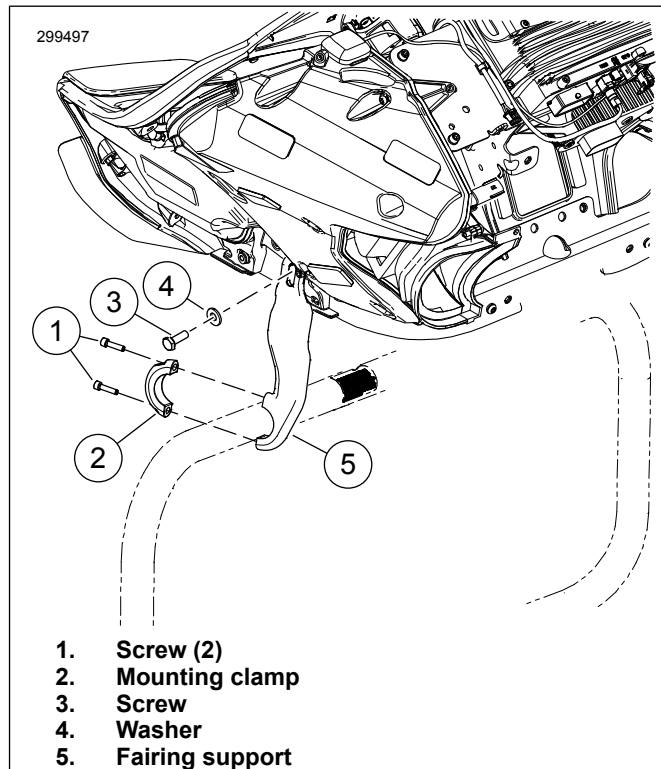

Figure 2. Remove Engine Guard
2. See Figure 2. Remove two screws (1) and mounting clamp (2) from fairing support (5).
3. Remove and retain screw (3) and washer (4) from stock fairing support.